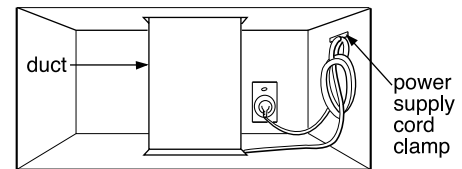

Figure 34
6. Use the power supply cord clamp to bundle the power supply cord. Install the power supply cord clamp, using a screw as shown in Figure 34, to inside of the cabinet.